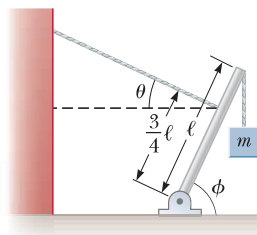

Figure P12.46
46. A 1 200-N uniform boom at $\phi = 65^\circ$ to the vertical is supported by a cable at an angle $\theta = 25.0^\circ$ to the horizontal as shown in Figure P12.46. The boom is pivoted at the bottom, and an object of weight $m = 2\,000$ N hangs from its top. Find (a) the tension in the support cable and (b) the components of the reaction force exerted by the floor on the boom.